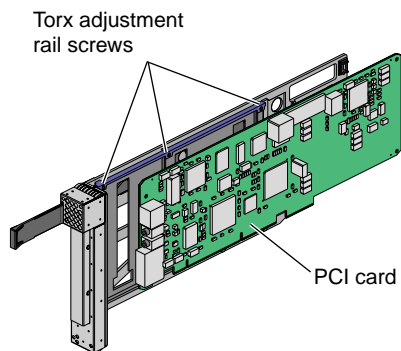

Figure 2-3 Torx Adjustment Rail Screws
2. If you are replacing a card, loosen the three T8 Torx adjustment rail screws (see Figure 2-3) and gently remove the existing PCI card from the carrier.